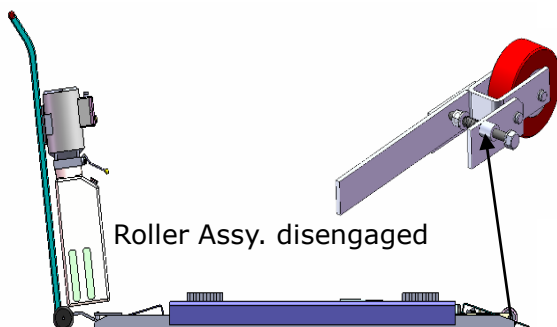

Fig. 20
2. The roller assy. must be disengage when lifting vehicle (**See Fig.20**).
5. Move lift: Pull up roller bracket, lock two roller assy. to the lift with roller shaft. (**See Fig. 20&21**). Moving the lift by the power unit stand.